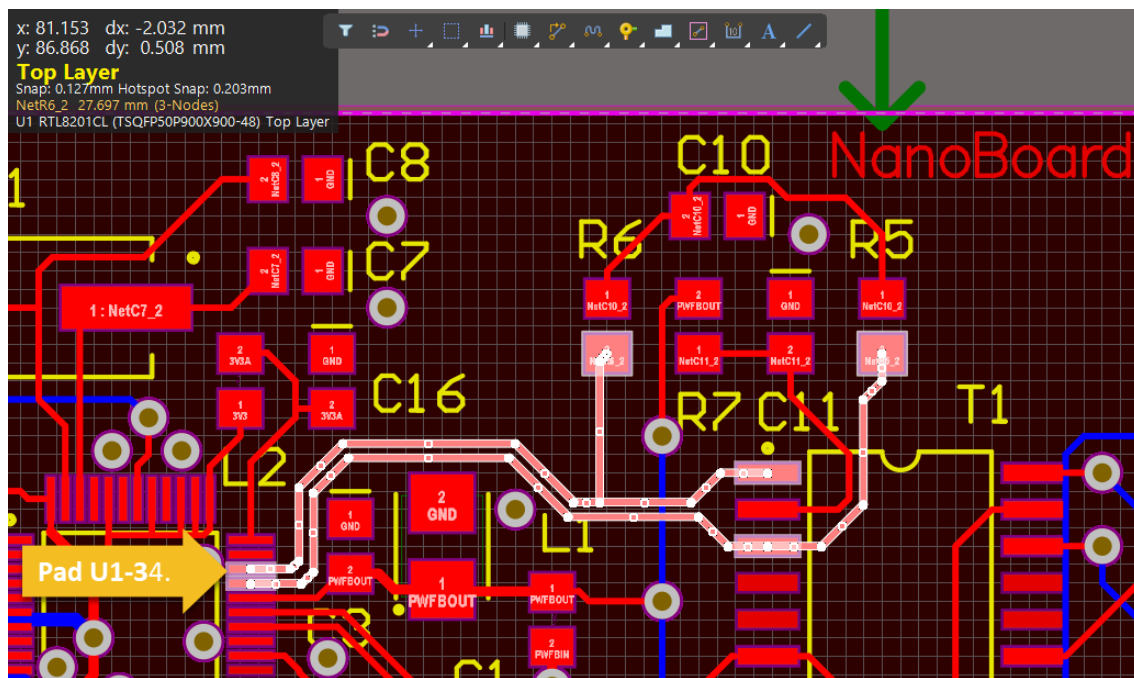

Figure 1. Select net for shielding
- d) Press and hold **Shift** key. Select the Pad U1-33. Pad U1-33, tracks, and pads with the assigned net NetR5\_2 are now selected. Use Figure 1 as reference.